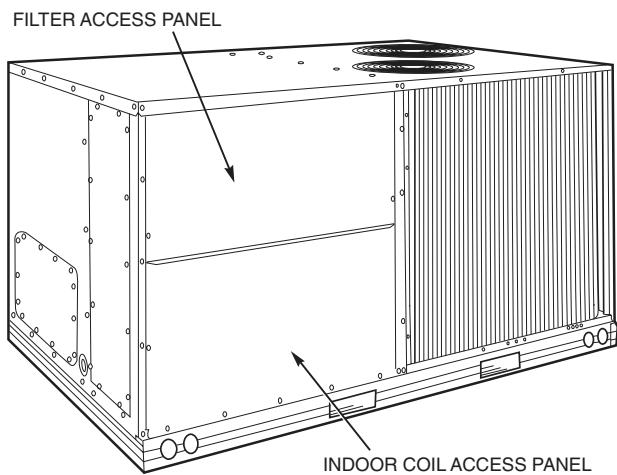

Fig. 18 — Typical Access Panel Locations
1. To remove the existing unit filter access panel, raise the panel and swing the bottom outward. The panel is now disengaged from the track and can be removed. See Fig. 18.